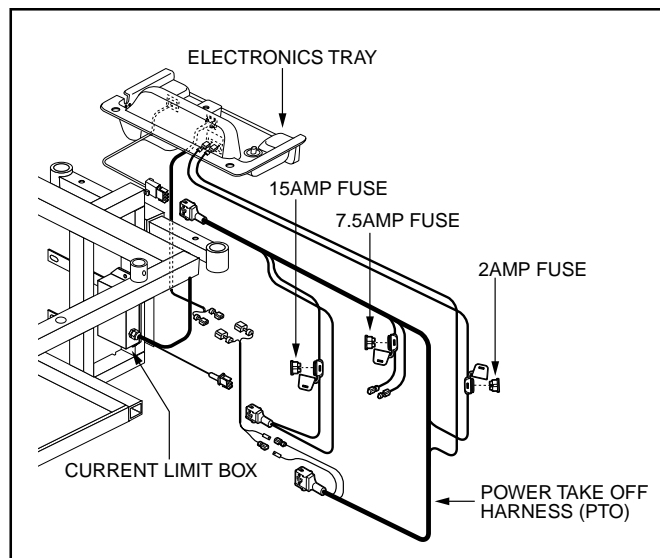

Figure 4.57. PTO Harness Connections
6. Locate the 15-amp fuse in the Power Take Off (PTO) harness under the shroud of the power chair that leads to the current limit box. See figure 4.57. Verify that the fuse is good. If the fuse is defective, replace it with one of the same type.
8. Disconnect the PTO harness from the current limit box. See figure 4.57. Check for battery voltage at the connector. If there is voltage, replace the current limit box.